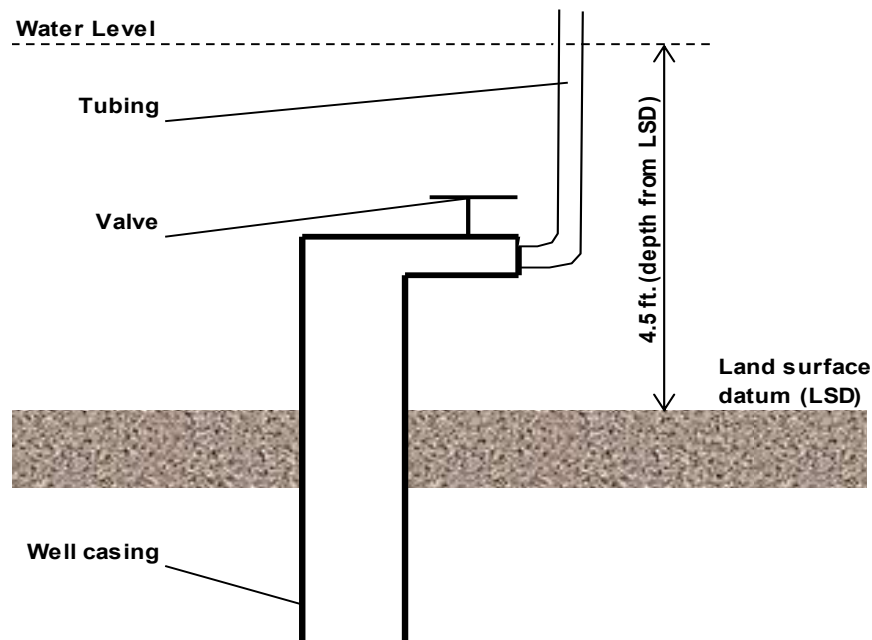

Figure 4. Flowing well – Tubing method of measurement for groundwater levels (not to scale).
- 5) Measure the distance from land surface to the water level in tubing (see Figure 4).